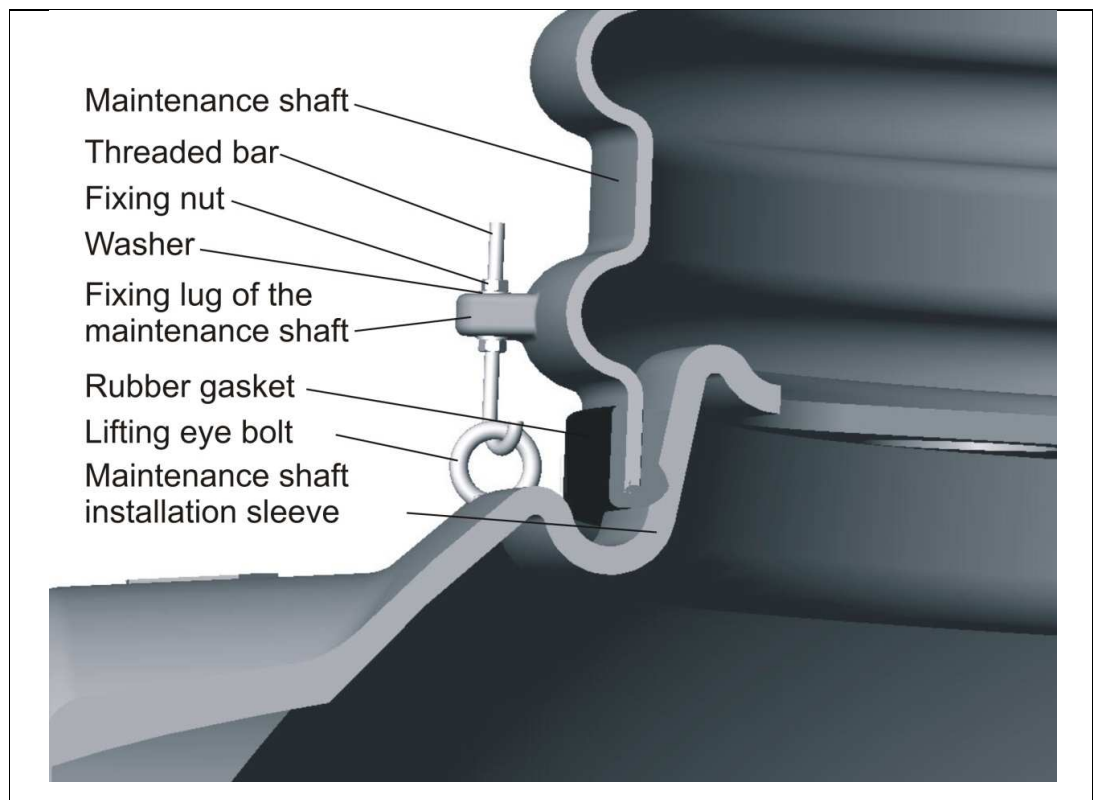

Figure 7. Installing of EuroHUK maintenance shaft to PE-tank.
1. Remove the storage cover from the maintenance shaft installation sleeve. Place the rubber gasket to maintenance shaft's lower edge. (Figure 7). Install the maintenance shaft vertically to installation sleeve. Lock the retaining latches.